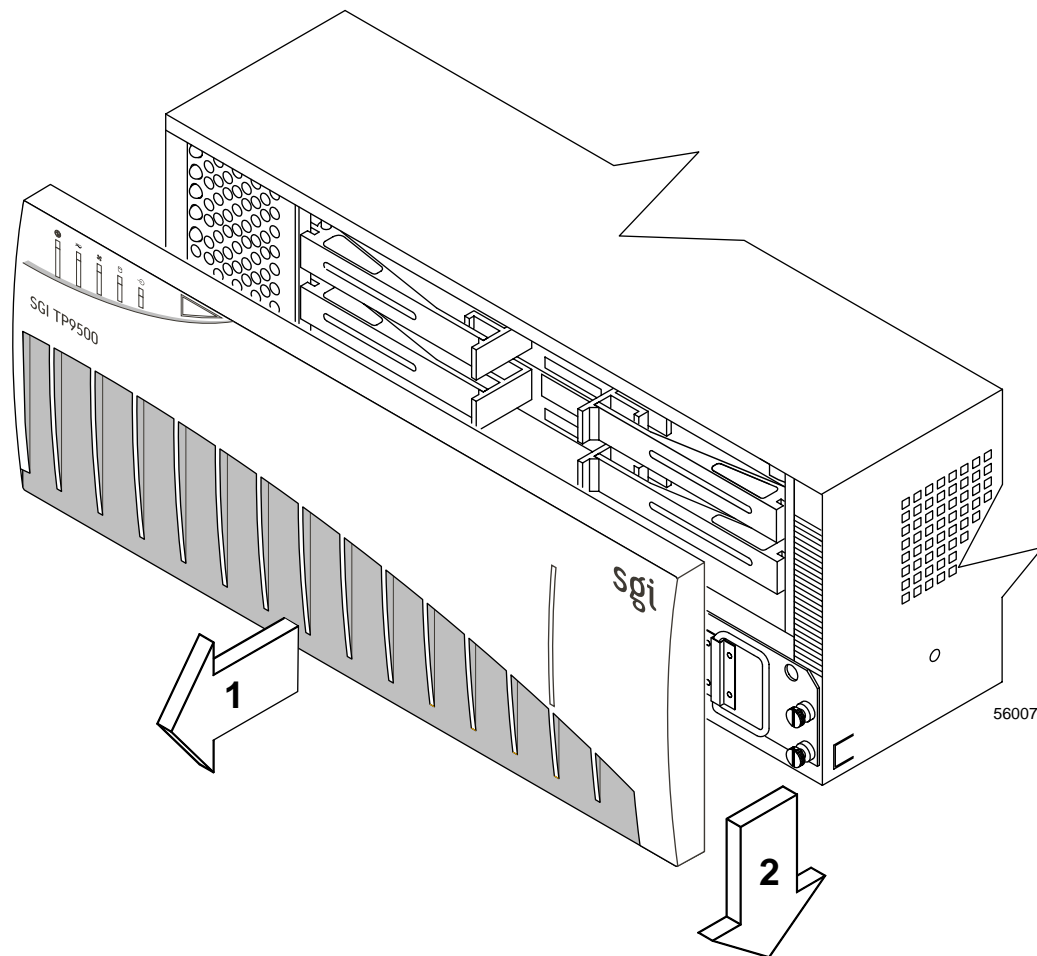

Figure 3-1 Removing the Front Cover of the Controller Enclosure
To access the controller enclosure components, cables, indicator lights, and switches, you must remove the front cover (see Figure 3-1).
1. To view all of the indicators, remove the front cover of the controller enclosure (see Figure 3-1 on page 26) and remove the rear access panel on the rack.
4. If all indicators show a “normal status,” replace the front cover (see Figure 3-1 on page 26). If the indicator lights show a fault, run the storage management software (TPSSM) to diagnose and repair the problem.